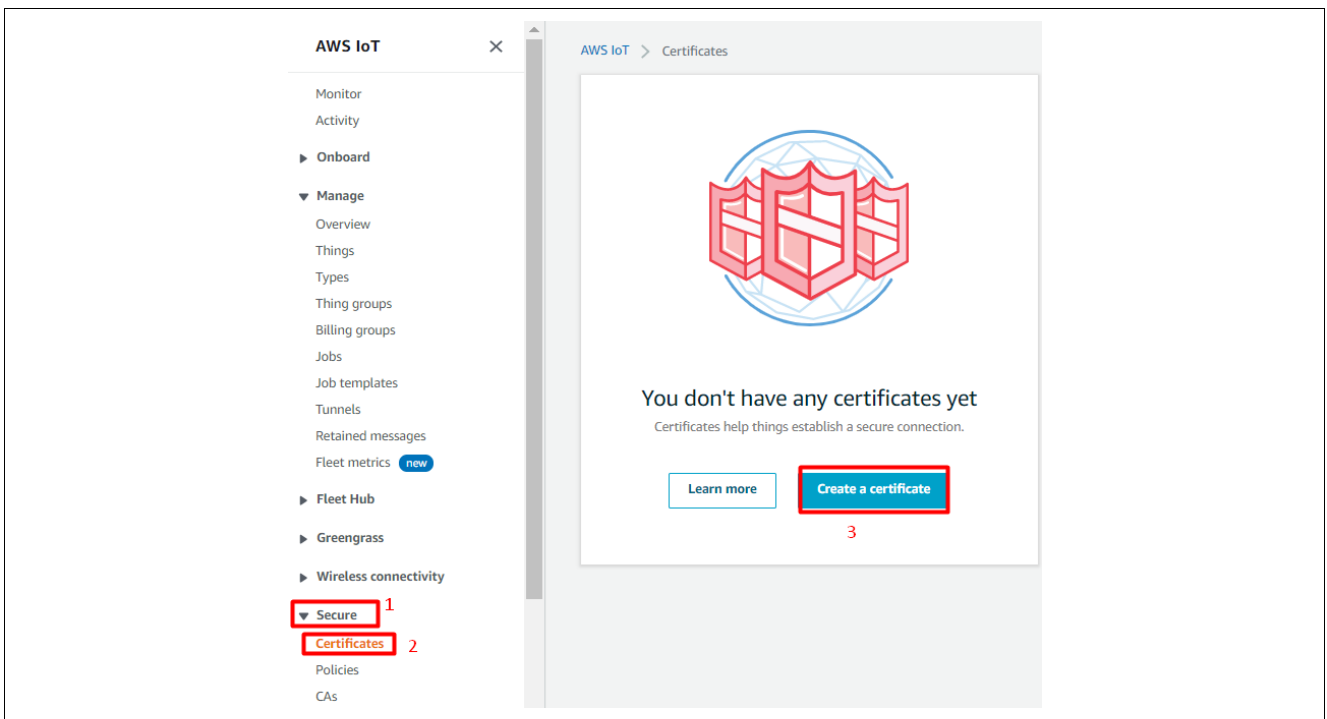

Figure 22. Creating New Certificate
2. On the new window click on **Create a Certificate** as shown in the Figure 22.